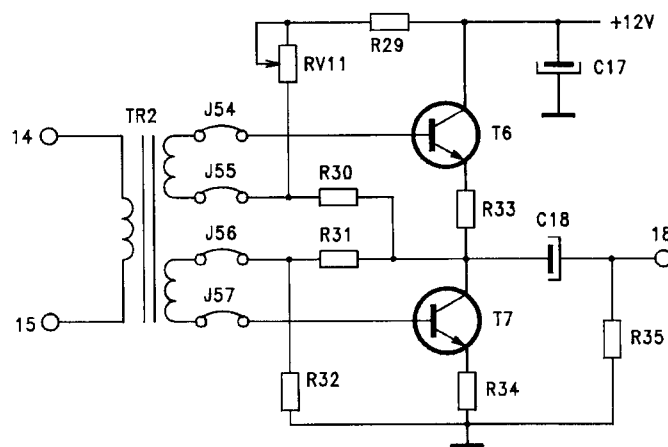

fig. B30.7
- Insert jumpers J54, J55, J56, J57 to obtain the circuit of figure B30.7